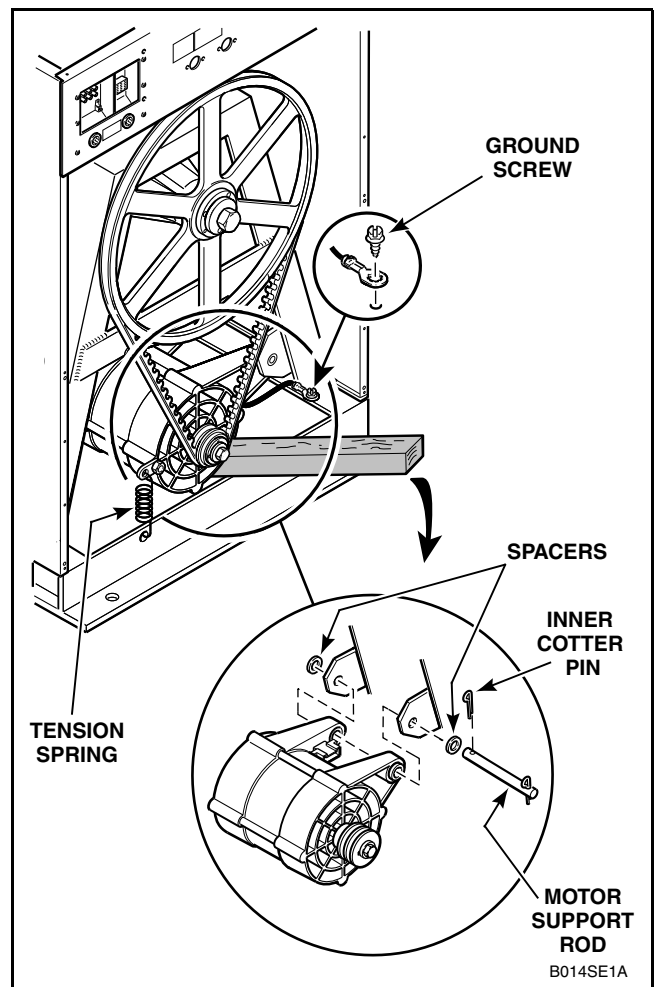

Figure 15
- Use a piece of two-by-four or something similar to support motor, refer to *Figure 15*. Rotate pulley to run belt off pulley and motor. Once belt has been removed from pulley, take out support and lower motor gradually. **DO NOT** let the motor drop or you could damage the motor.
- Remove ground screw from frame, refer to *Figure 15*.
- Use a piece of two-by-four or something similar to support motor, refer to *Figure 15*. Rotate pulley to run belt off pulley and motor.
- Lower motor gradually. **DO NOT** let the motor drop or you could damage the motor. Remove tension spring from frame and motor, refer to *Figure 15*. Once spring has been removed, take out support.